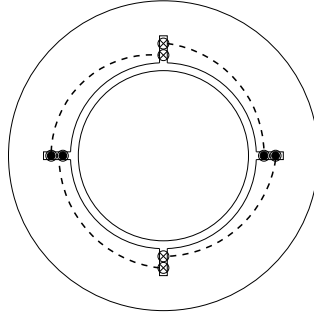

Figure 1: 4 Pole Concentrated Coils
1. To start, assume that there is a single coil around each pole as shown in Figure 1. Thus there are four 'slots' with two coil halves in each slot. Compute and plot the magnetic flux density produced across the air-gap. Assume each coil has one turn and that the coils are connected in series. The winding is carrying a current of 10,000 A.